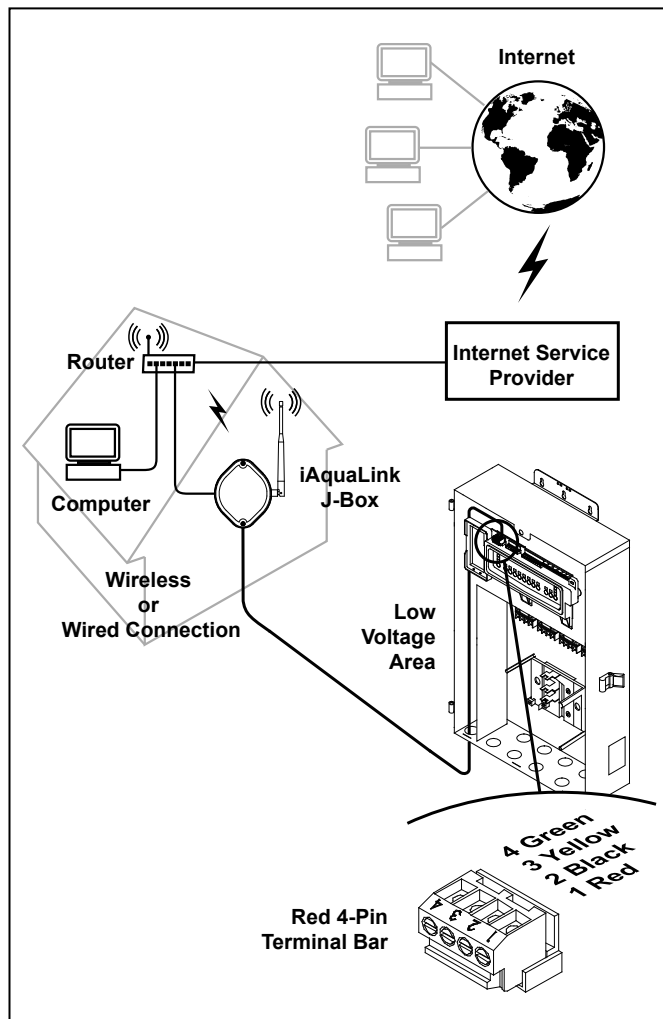

Figure 4. iAquaLink J-Box Indoor Installation
5. Pull cable through the knockout with the Heyco or equivalent fitting and into the low voltage compartment. See Figure 4.
7. Strip each wire ¼" (6 mm) and connect to the red, 4-pin connector on the power center PCB. A multiplex kit (P/N 6584) may be required if there are more than two (2) cables running to a red, 4-pin connector on the power center PCB.